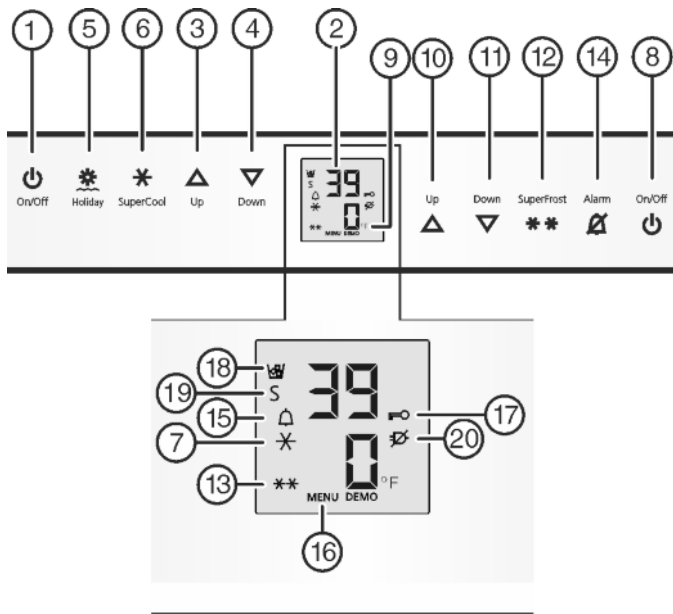

Fig. 3
- ▶ Press On/Off button, freezer compartment Fig. 3 (8).
- ▶ Press Fridge compartment On/Off button Fig. 3 (1).
- ▷ Fridge and BioFresh compartment are on: Fridge temperature display Fig. 3 (2) is on. When the refrigerator compartment door opens the interior light comes on.
- ▶ Activate setting mode: Press SuperFrost button Fig. 3 (12) for about 5 seconds.
- ▷ The Menu symbol *Fig. 3 (16)* lights up.
- ▶ Using Freezer compartment Up button *Fig. 3 (10)*/ Freezer compartment Down button *Fig. 3 (11)* select °.
- ▶ To confirm: Briefly press SuperFrost button *Fig. 3 (12)*.
- ▶ Using Freezer compartment Up button *Fig. 3 (10)*/ Freezer compartment Down button *Fig. 3 (11)* select °F or °C.
- ▶ To exit setting mode: Press Freezer compartment On/Off button *Fig. 3 (8)*.
- ▶ Activate setting mode: press and hold the SuperFrost button *Fig. 3 (12)* for approximately 5 s.
- ▶ Using the Freezer compartment Up button *Fig. 3 (10)* or Freezer compartment Down button *Fig. 3 (11)*, select c.
- ▶ Press the SuperFrost button *Fig. 3 (12)* briefly to confirm.
- ▶ To switch on the child-proof lock, press the SuperFrost button *Fig. 3 (12)* briefly.
- ▷ The Child safety symbol *Fig. 3 (17)* lights up. c flashes on the display.
- ▶ To switch off the child-proof lock, press the SuperFrost button *Fig. 3 (12)* briefly.
- ▷ The Child safety symbol *Fig. 3 (17)* goes out. c flashes on the display.
- ▶ Deactivate setting mode: press the Freezer compartment On/Off button *Fig. 3 (8)*.
- ▶ Press Alarm button *Fig. 3 (14)*.
At the same time, the Alarm symbol *Fig. 3 (15)* will flash.
The audible warning automatically ceases, the Alarm symbol *Fig. 3 (15)* goes out, and the temperature display stops flashing when the temperature is cold enough again.